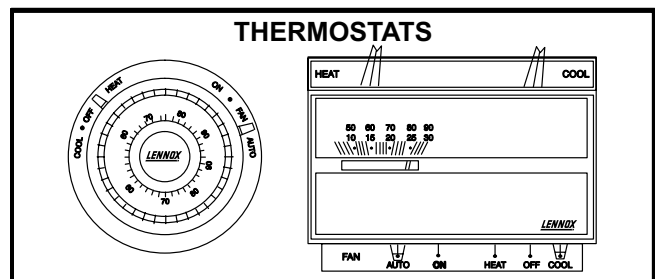

FIGURE 1
- 2 - Set thermostat to lowest setting. See figure 1.